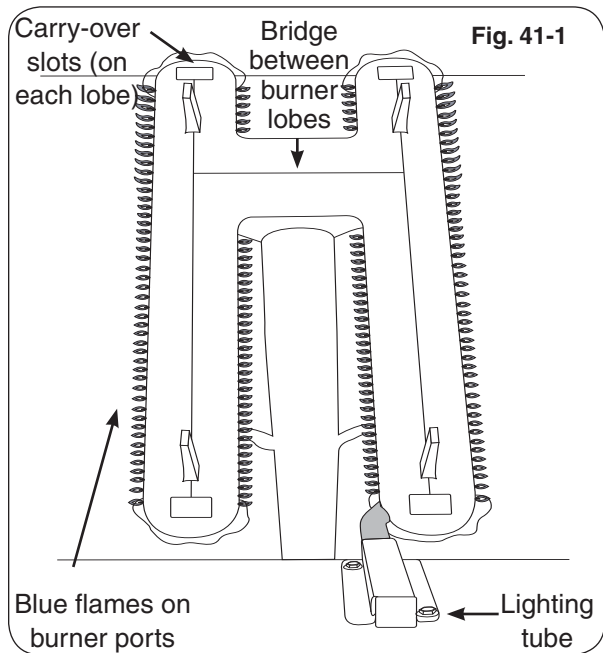

Fig. 41-1
Flames from a properly adjusted main burner with no wind or breeze present will appear fairly steady, consistent, and mostly blue. If the tip of a flame were to turn orange, it should only do so briefly and then become blue again. The flames will appear to burn while touching the burner ports (see Figure 41-1).
5. Repeat steps 1-4 until the flames appear to touch the burner ports, burning fairly steadily and mostly blue (see Fig. 41-1).